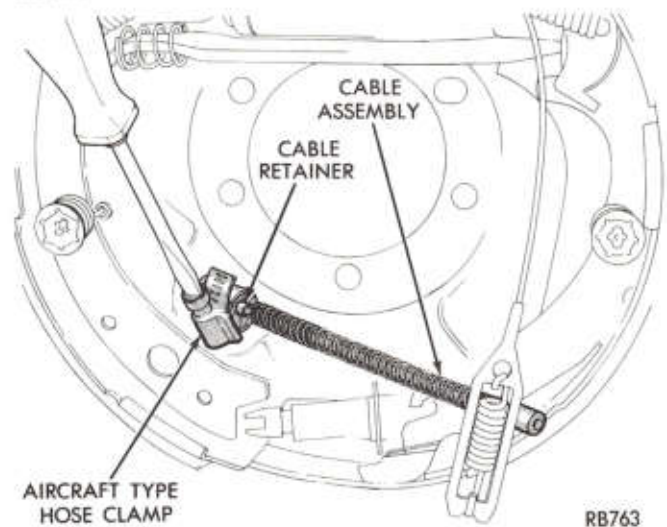

Fig. 3—Removing Brake Cable from Support Plate
(1) With wheel and brake drum removed, remove brake shoe assemblies and disconnect brake cable.
(2) Using a suitable tool such as an aircraft-type hose clamp, compress the flared legs of cable retainer and pull brake cable out of support plate (Fig. 3).
(3) Disconnect hydraulic brake tube from wheel cylinder.
(4) Remove support plate to wheel cylinder attaching nuts and washers.
(5) Remove rear axle shaft and retainer. Refer to "Rear Axle," Group 3.
(6) Remove brake support plate from rear axle housing.